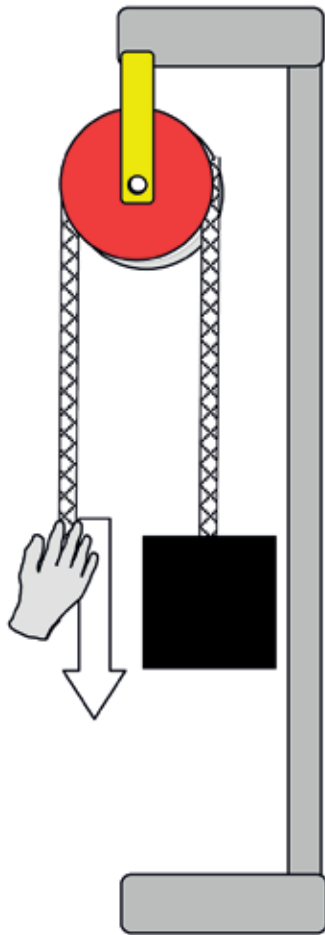
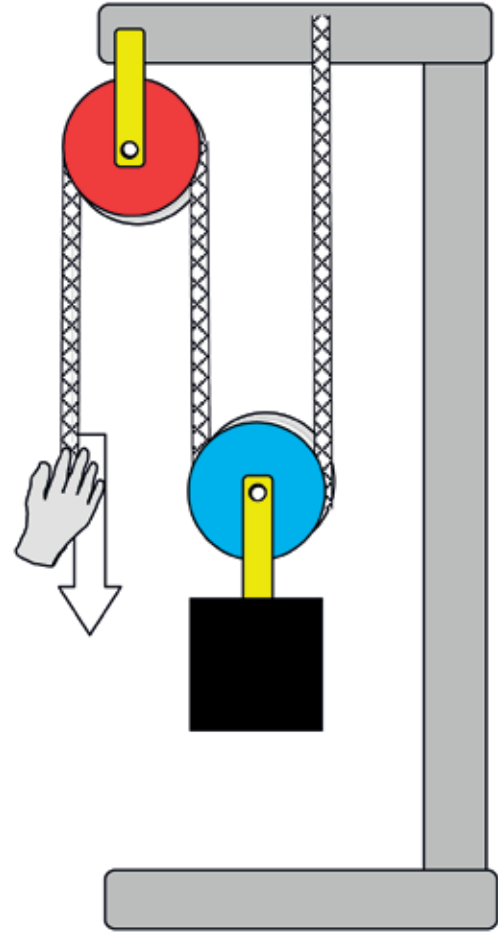

Figure 10A
Figure 10C
Figure 10C shows a **single wheel fixed pulley system**.
Figure 10A shows a **pulley block system**, also called a **block and tackle**.
1. Look carefully at Figures 10A and 10C.
(a) If the rope in Figure 10A is pulled down by 50 cm, will the load (the black object) also move up by 50 cm?
(c) When will you do more work, when you pull the rope in Figure 10A down by 50 cm, or when you pull the rope in Figure 10C down by 50 cm?